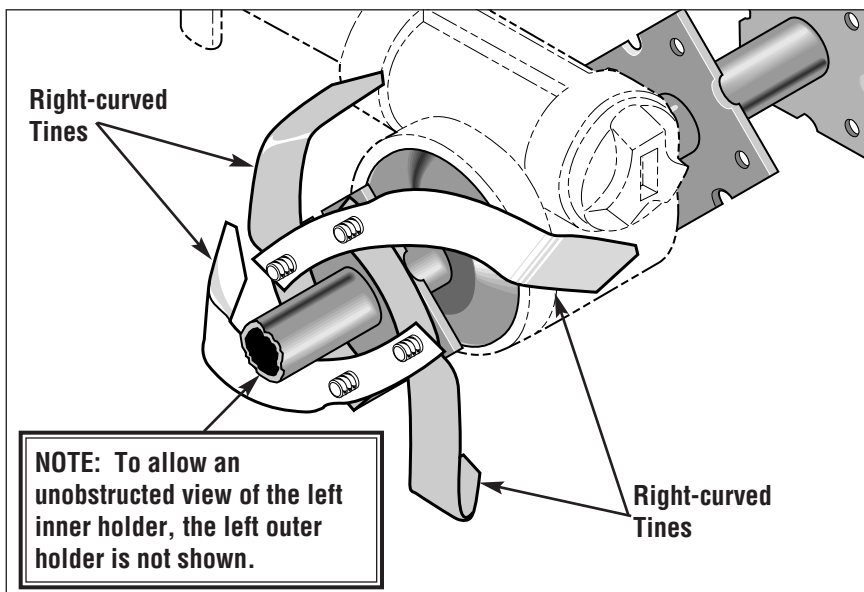

Figure 21: Installing tines on left inner tine holder.
A. Begin installing new tines on the left inner holder. See Figure 21.
B. Carefully place two *right-curved* tines (shown shaded in Figure 21) *opposite* each other on the previously installed bolts. Make sure that tines are positioned as follows:
C. Place two more *right-curved* tines (shown partially shaded in Figure 21) *opposite* each other on the bolts, overlapping the tines installed above in Step 1-B. Make sure that the tines are positioned as follows: